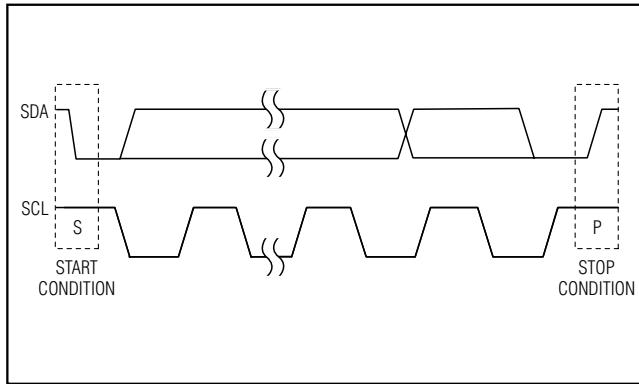
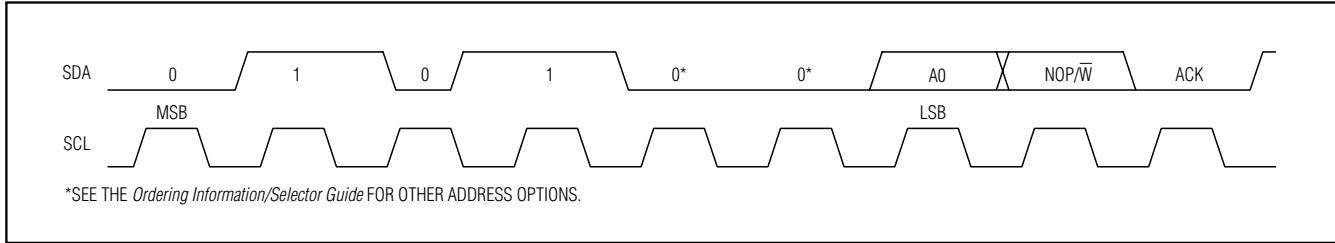
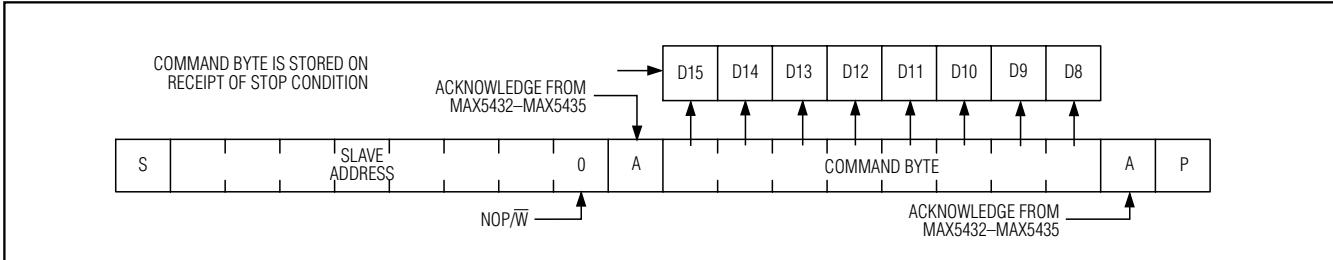

Figure 3. Start and Stop Conditions
Figure 4. Slave Address
Figure 7. Command Byte Received
Each transmission consists of a START (S) condition (Figure 3) sent by a master, followed by the MAX5432–MAX5435 7-bit slave address plus the 8th bit (Figure 4), 1 command byte (Figure 7) and 1 data byte, and finally a STOP (P) condition (Figure 3).
high while SCL is high. The bus is then free for another transmission (Figure 3).
The MAX5432-MAX5435 have a 7-bit-long slave address (Figure 4). The 8th bit following the 7-bit slave address is the NOP/W bit. Set the NOP/W bit low for a write command and high for a no-operation command.